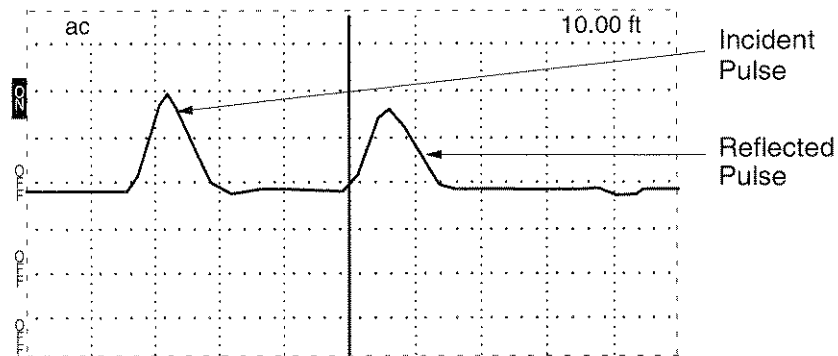

Figure 2-2: Cursor of Rising Edge of Reflected Pulse
3. The first (left) pulse is the incident pulse, as sent from the pulse generator (see Figure 2-2). The second bump is the reflected pulse, as it bounces back from the end of the cable. The reflected pulse and the time between pulses provides the information needed for calculating the distance between faults or the end of the cable.